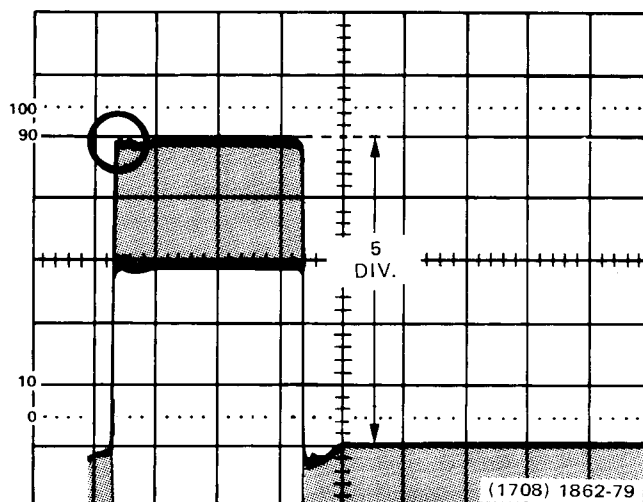

Fig. 6-1. Typical display when Z-Axis Compensation is properly adjusted. Circle surrounds compensated portion of waveform.
d. Adjust 475 INTENSITY for a positive step amplitude of 1 volt (5 divisions) on test oscilloscope display. See Figure 6-1.
e. CHECK—For a flat-top waveform in the first 20 nanoseconds from front corner. See Figure 6-1.